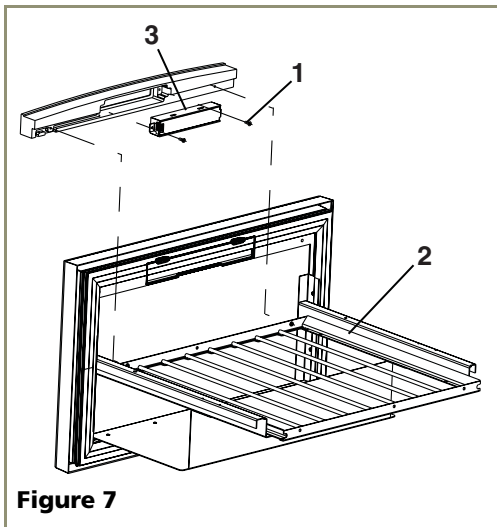

Figure 7
4. Remove the two screws (**Figure 7, 1**) securing trim to wine rack assembly (**Figure 7, 2**).
Note: Your model will contain an electronic display panel (**Figure 7, 3**) in the wine rack attached to the bottom drawer. After removing the trim screws, and gently lifting the trim from its location, a wiring harness connector will become visible. Unplug the connector. DO NOT remove drawer from unit.